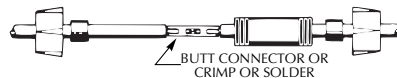

FIGURE 9
- F. Insert wire end into butt connector and crimp. **Match** cable and motor wire colors (see Figure 9).